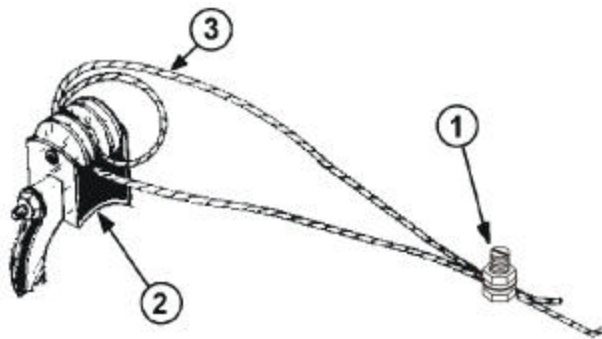

Figure 30. Anti-Roost Cable at the Hopper
- 2. Start at the hopper end of the line and form a loop around the anti-roost bracket. For best results, make a double loop around the anti-roost insulator in the center groove of the insulator and fasten with a 3/32" cable clamp as shown in Figure 30.